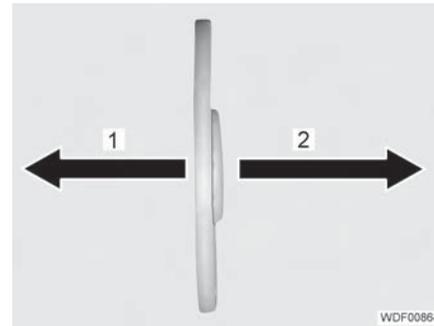

Fig. 69 Installation direction
- ▷ Pay attention to the installation direction (Fig. 69) of the clutch PA flange: